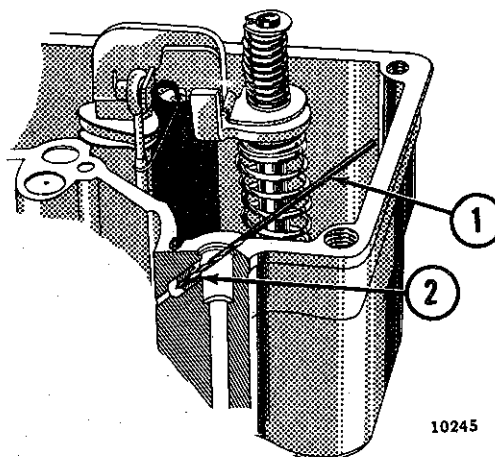

FIG. 138—DRILLING CARBURETOR JET
**NOTE:** All YF-951S carburetors produced prior to May, 1956, have a .025" [0,635 mm.] size pump discharge jet. Those produced later and all YF-951SA carburetors have the current .031" [0,787 mm.] size pump discharge jet. When installing the kit, the pump discharge jet size must be checked. If the carburetor being converted has a .025" jet, it must be opened to .031" by running a No. 68 drill through the jet as shown on Fig. 138. The jet must be drilled as it is a pressed-in part and cannot be replaced.